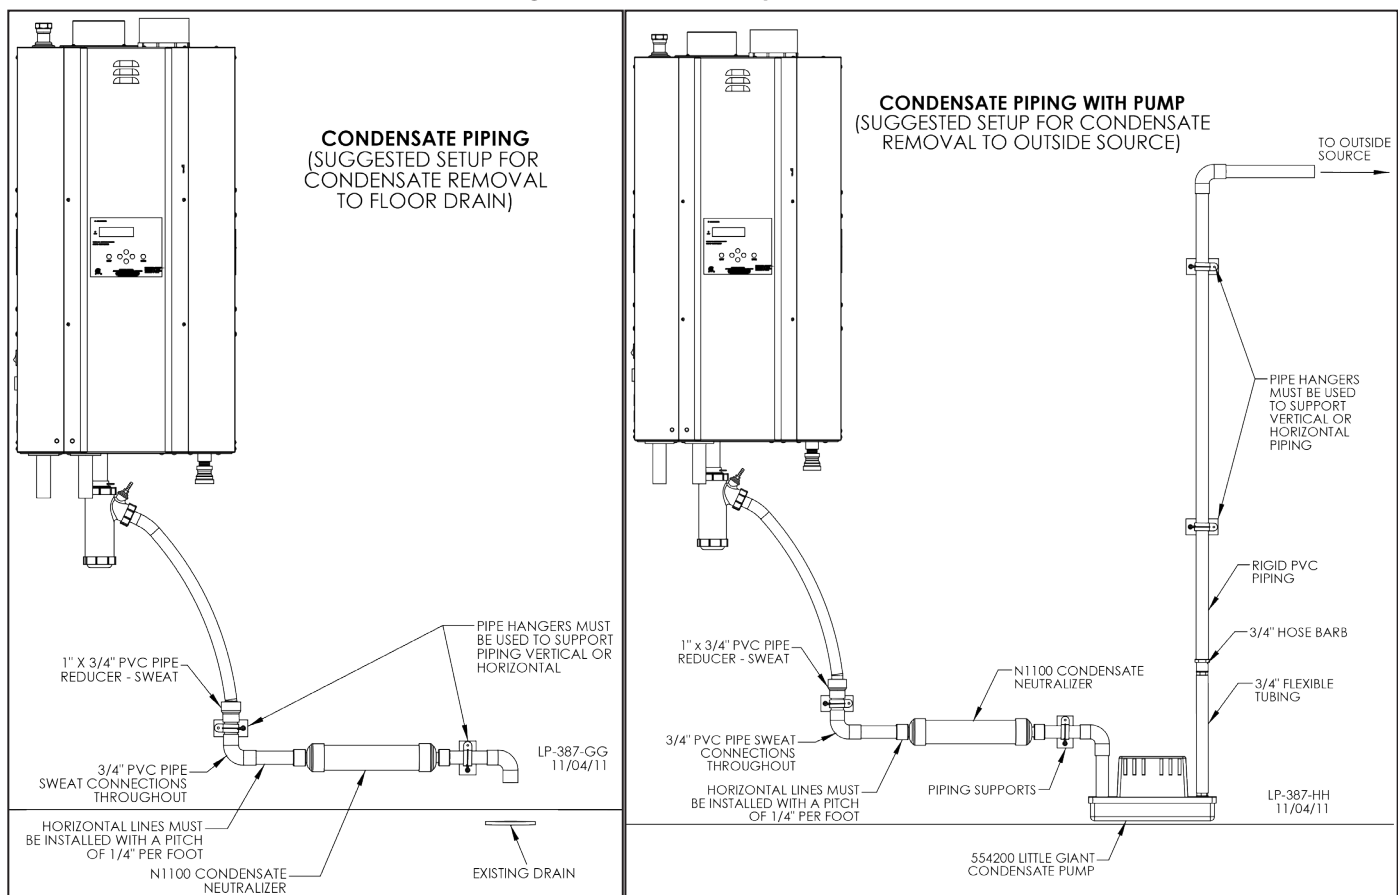

Figure 26 - Condensate Piping Suggestions
Condensate from the boiler is slightly acidic with a pH of 3.2 - 4.5. To avoid long term damage to the drainage system and to meet local code requirements, HTP recommends neutralizing condensate with a Condensate Neutralizer Kit (Part # 7450P-212 for 55 - 285 models, Part # 7350P-611 for the 399 model). The neutralizer kit connects to the drain system and contains limestone chips that neutralize the pH level of the condensate. The neutralizer kit should be checked annually and the limestone chips replenished if necessary. When replacing the limestone chips, take care to ensure chips are no smaller than 1/2" to avoid blockage in condensate piping (refer to Figure 26 for piping of the condensate neutralizer.)
5. Run condensate drain hose to 1" PVC or CPVC drain pipe. See Figure 26.